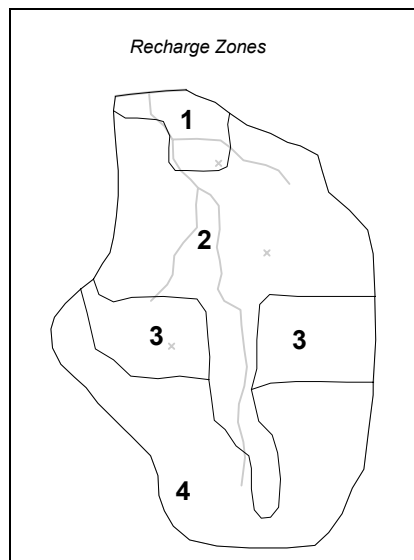

Figure 11-1 Recharge Zones
First, we will assign the transient recharge rate for the recharge zones. The recharge zones are shown in Figure 11-1. There are four recharge zones defined by five polygons. We will leave the recharge rate for zone 1 at zero. We will assign a transient recharge rate to the other three zones.
5. Select the polygon corresponding to recharge zone 2 in Figure 11-1.
1. Select the two polygons that make up recharge zone 3 in Figure 11-1. Click on the first polygon and then hold down the *Shift* key while clicking on the second polygon.